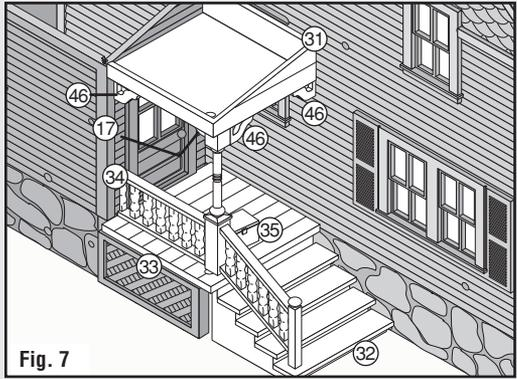

Fig. 7
- Install Details in the following order, Light (17), Stairs (32), Porch Floor (33), Railing (34), Cooler\* (35), Decorative Ceiling (31), and Brackets x3 (46) (Fig. 7).